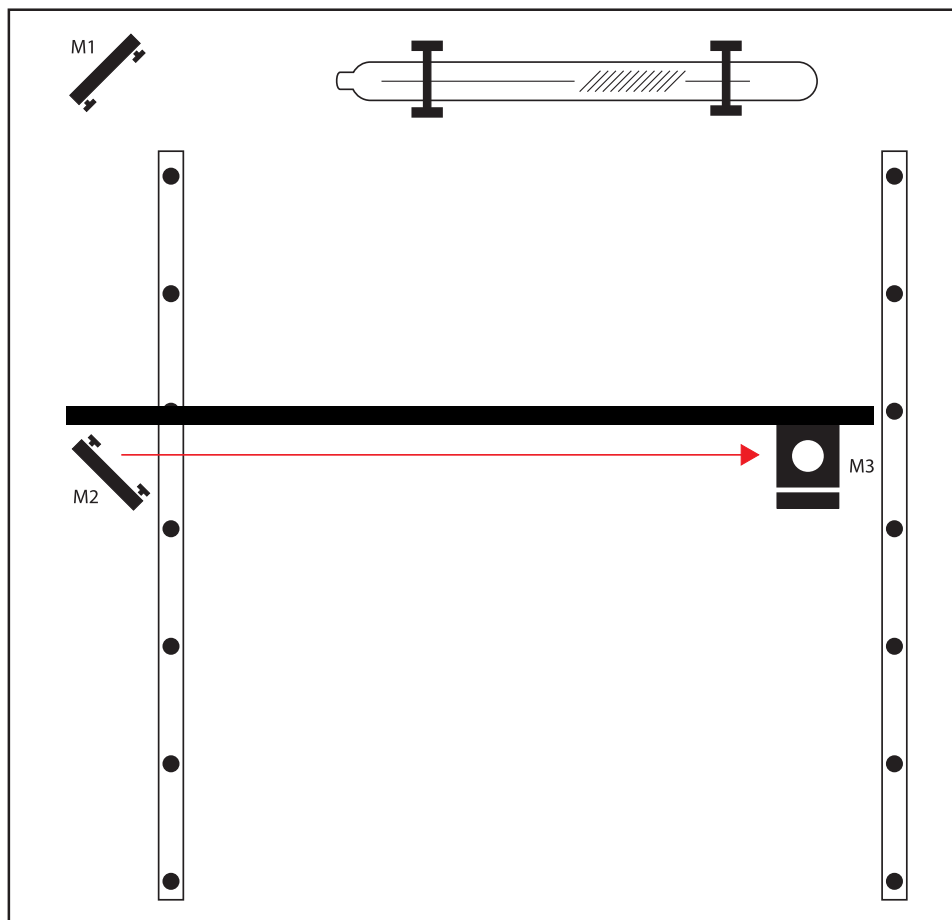

Figure 4.10
**9. Re-Position X-Gantry back to “Far”:** Jog or manually position the laser head to the right position where you did the first test fire (see Figure 4.10).